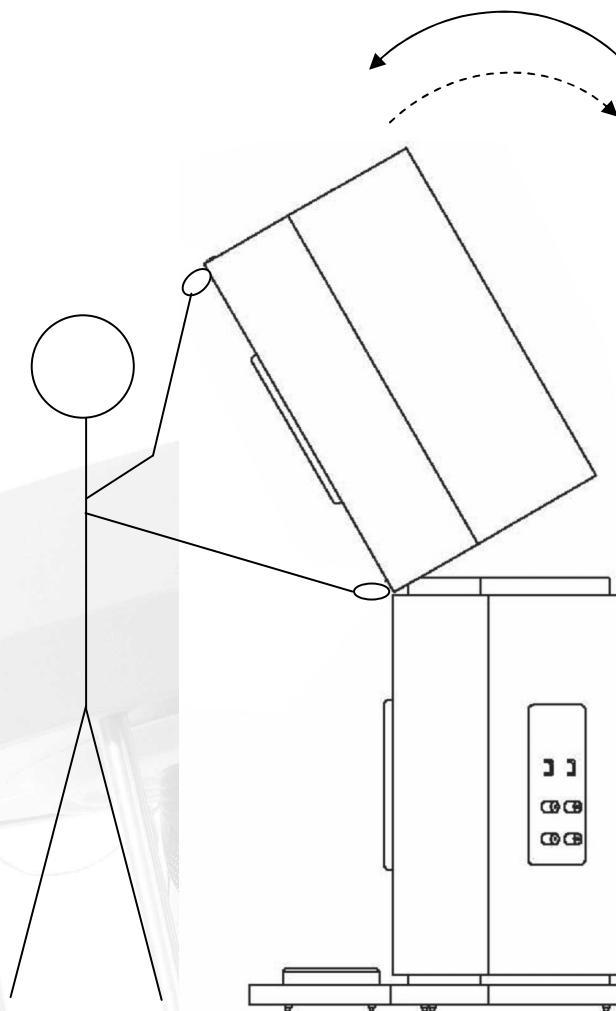

Figure 5. Fitting Upper Module and Connection Cables
4. The next operation must be carried out by two people. You will need 4 of the black inter-cabinet connecting cables ready to hand. Identify the left loudspeaker upper module. As with the lower module, you may find it easier to handle if you remove the grills. Place the module on top of the distance frame and ensure that it is properly seated. One person should stand at the front of the loudspeaker and with their hands placed as shown in figure 5, carefully tilt the upper module forward over one edge sufficiently to allow the second person to fit the inter-cabinet connecting cables between the two modules. The upper module may be tilted forward on either edge. Choose the one that is most convenient. Take great care to ensure that it cannot slip forward whilst being tilted. The sockets are colour coded. Please ensure that all the cables are correctly connected.